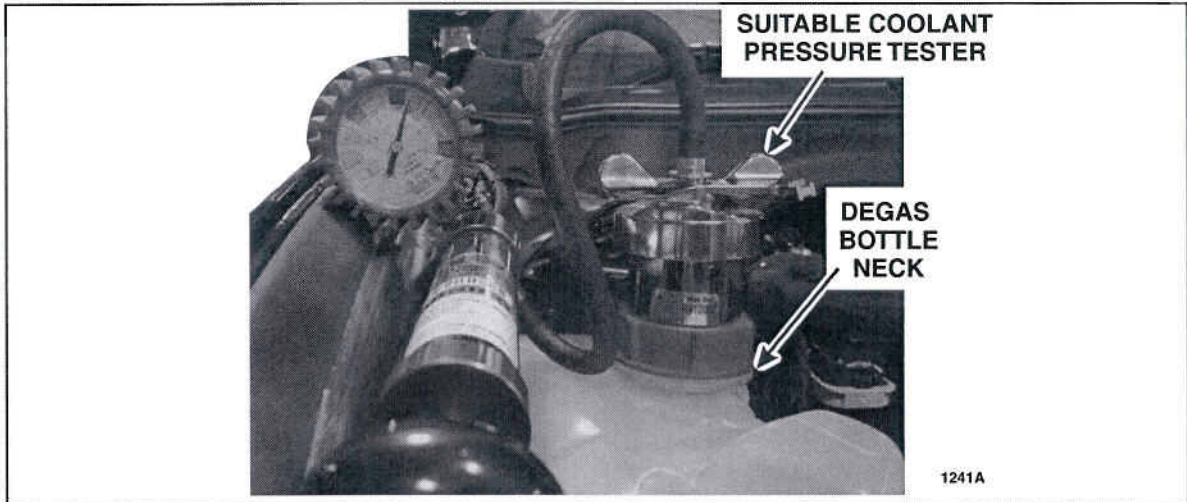

FIGURE 3
13. Install a suitable coolant system pressure tester, such as Rotunda pressure tester 014-R1072, and a suitable adapter (refer to the chart on Page 1) onto the degas bottle neck and pressurize the cooling system to 138 kPa (20 PSI). See Figure 3. Once the pressure has stabilized, the cooling system should hold the specified pressure for a minimum of 2 minutes.